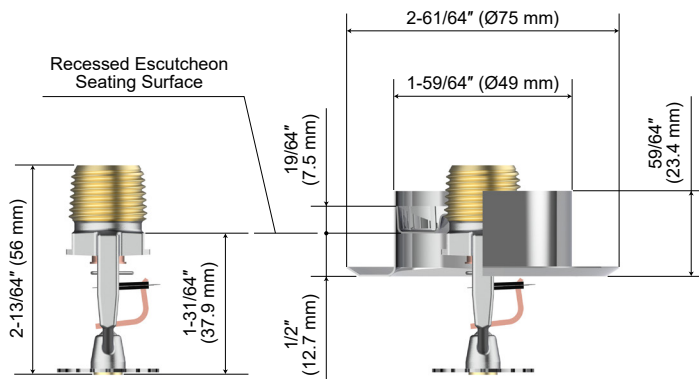

Figure 3: Pendent and Recessed Pendent Sprinklers
Step 1: Install the Inner Ring of the D1 or D3 Recessed Escutcheon over the sprinkler threads, as applicable. (Ref. Figure 3 and 4)